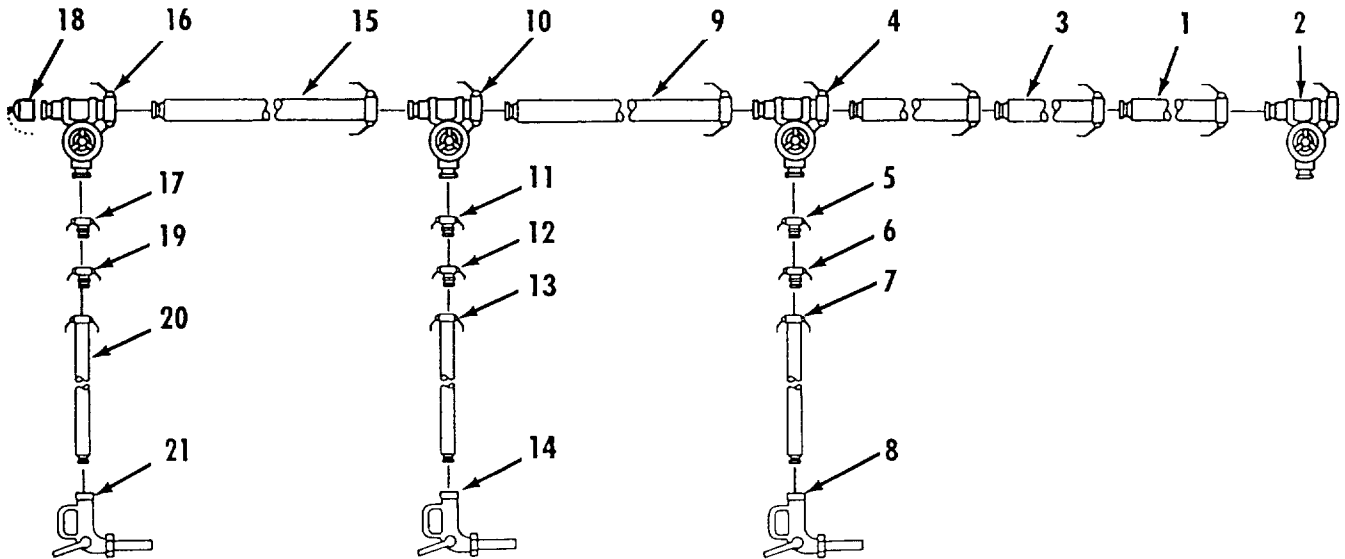

Figure 2-21. Fuel System - Refueling Points.
- m. Fuel System Drum Filling Points to Refueling Points. Refer to figure 2-21.